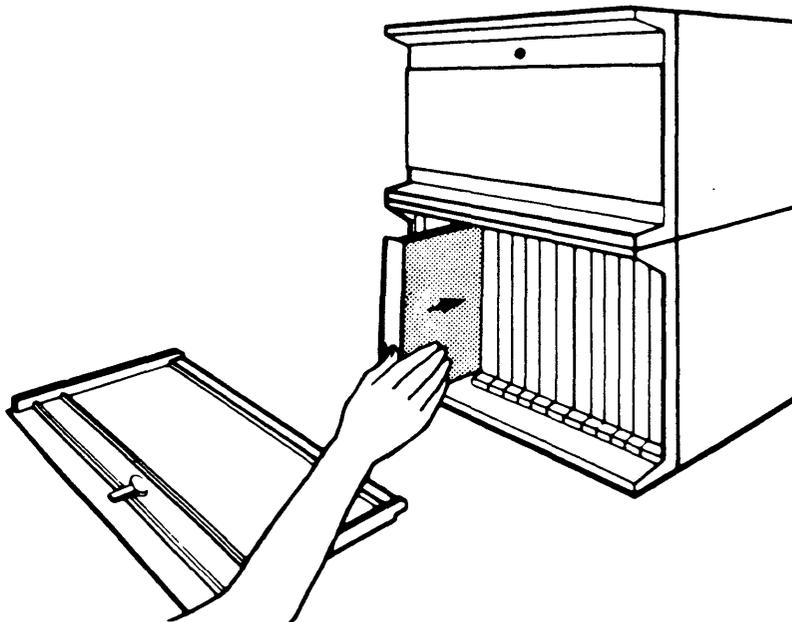

Figure 2.
1. Align the new module in the slot color-coded violet and labeled 2 in the control unit (Figure 2), making sure the edges of the circuit board are in the top and bottom grooves of the slot.